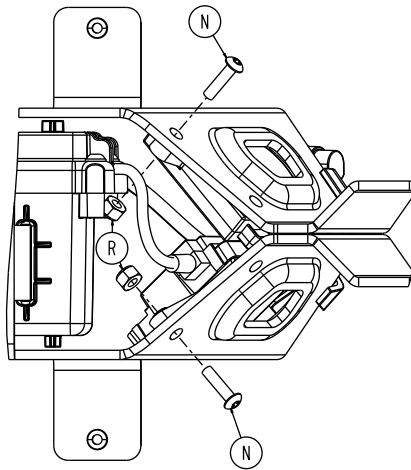

Figure 58 – Remove the wireless module screw and nut
7. Using a T25 Torx driver and a 3/8" combination wrench, remove the button head cap screw (N) and Fiberlock nut (R) that secure the wireless module, if equipped, and the NFMIC module to the cot, if equipped (Figure 58). Save the screw and nut.